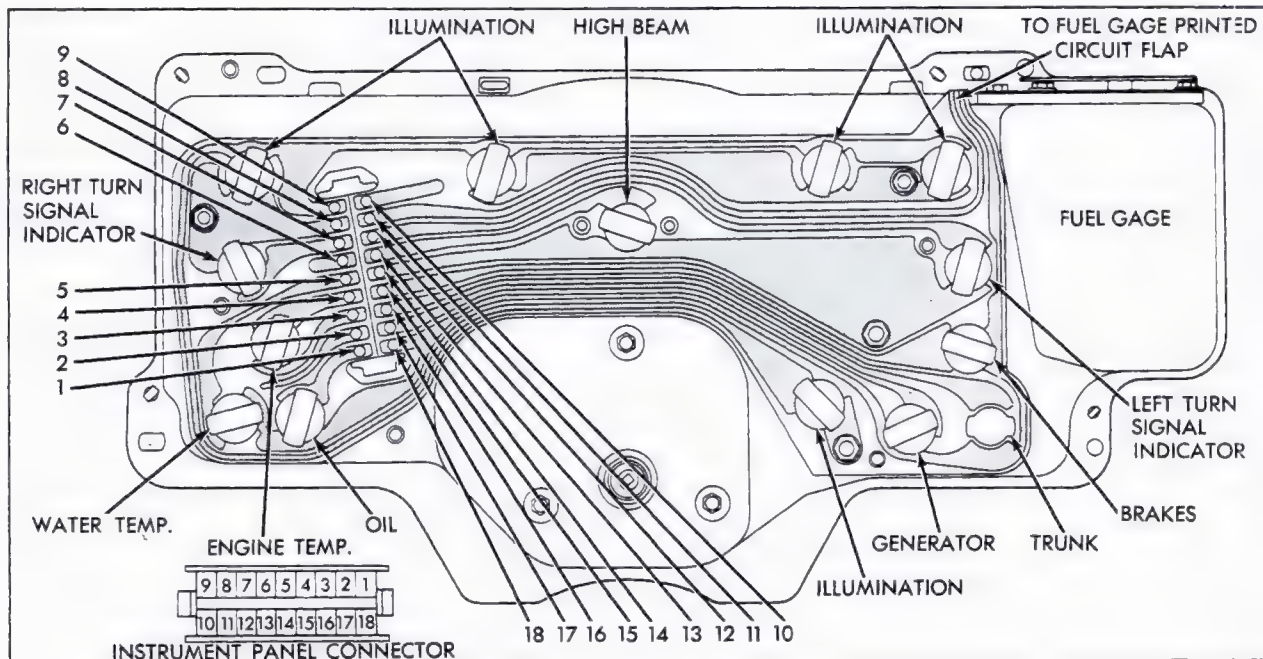

Fig. 12-32 Printed Circuit
2. Remove wedge base socket bulb for affected circuit, Fig. 12-32, and replace if necessary.
3. Examine the printed circuit affected for signs of damage using Fig. 12-32. If necessary, a self-powered test lamp may be used to check the continuity of these circuits. Check both the feed or hot circuit and the ground, switch or sender feeds for the affected circuit. If defective, the printed circuit must be replaced as described in Note 54.